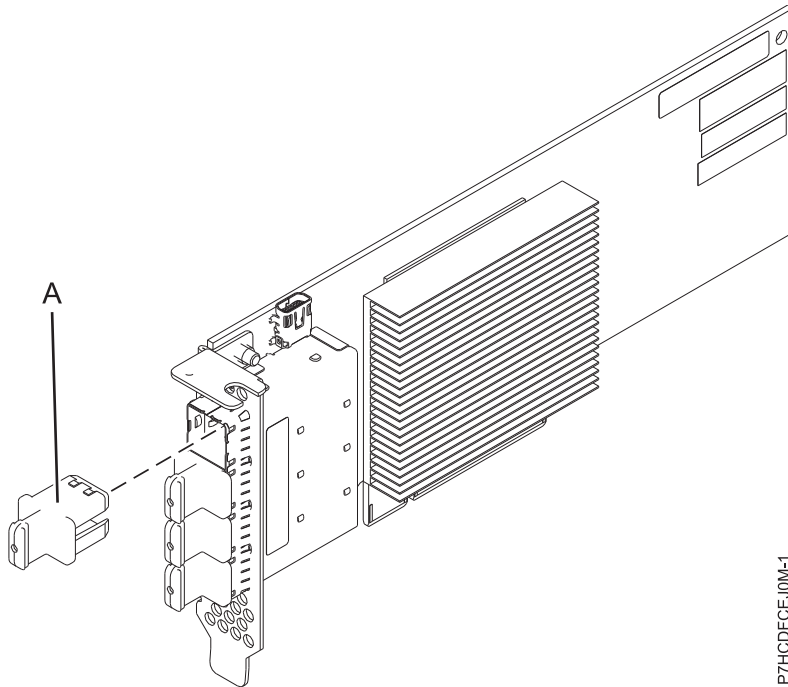

Figure 27. PCIe3 LP 4 x8 SAS Port Adapter
The PCIe3 LP 4 x8 SAS Port Adapter is a PCI Express (PCIe), generation 3, RAID SAS adapter is a low-profile, short-form factor adapter. The adapter is used in high-performance and high-density, serial attached SCSI (SAS) applications. It supports the attachment of SAS DVD or SAS tape by using four mini SAS high-density (HD) x4 connectors that allow the physical links to be used in various narrow and wide-port configurations. SAS tape attachment is only supported in a single adapter configuration and cannot be mixed with SAS disk on the same adapter. The adapter does not have write cache. Figure 27 on page 75 shows the PCIe3 LP 4 x8 SAS Port Adapter.
Figure 27 shows the adapter. The connector plug (A) is installed in an empty port and prevents damage to that port whenever a cable for the adjacent port connectors is plugged-in or removed.